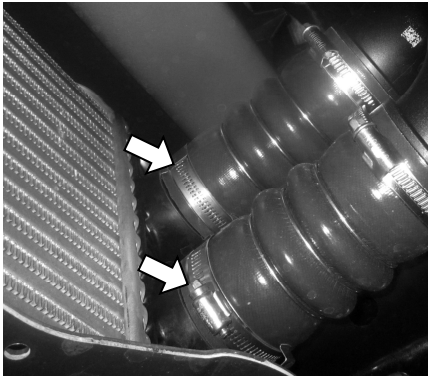

Figure 1
3. Loosen the hose clamps and remove the hose couplers from both intercooler inlets. **Refer to Figure 1**